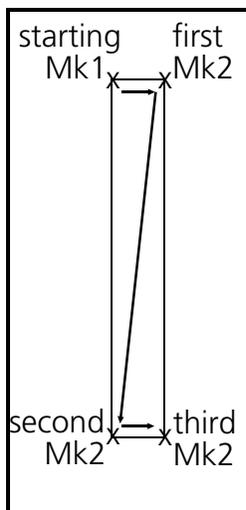

Figure 6-37
- #1 Start with a Mk1 to identify the beginning of one side of the column, shown as the starting Mk1 in Figure 6-37.
- #2 Enter a Mk2 at the beginning of the other side of the column, shown as the first Mk2 in Figure 6-37.
- #4 Enter a Mk2 at the end of the other (or second) side of the column (see third Mk2 in Figure 6-37) This Mk2 ends the column stitching sequence.